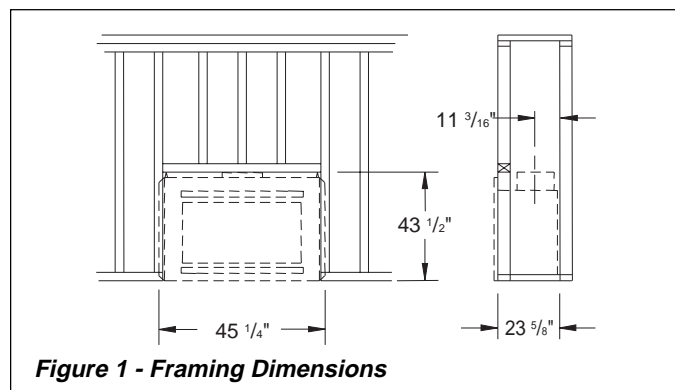
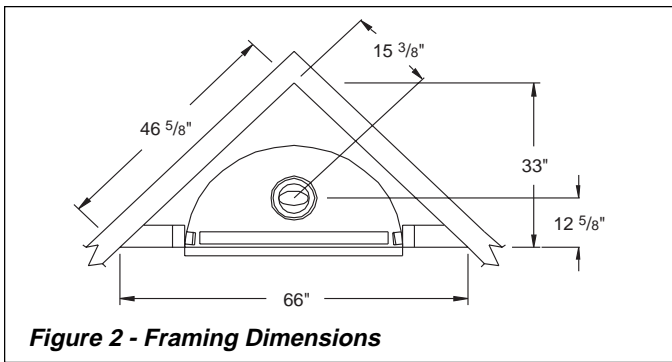

Figure 1 - Framing Dimensions
Figure 2 - Framing Dimensions
STEP 1: Frame the opening for the firebox using the dimensions shown in Figure 1 or Figure 2.